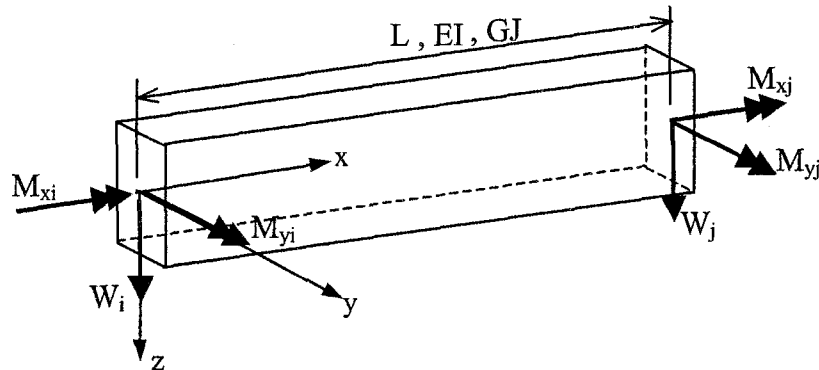

Figure 6
4. (c) Explain the similarity and dissimilarity between a plane frame and a grillage. Explain also the derivation process of the following stiffness equation in local coordinate system for a grillage member as shown in Figure 6.